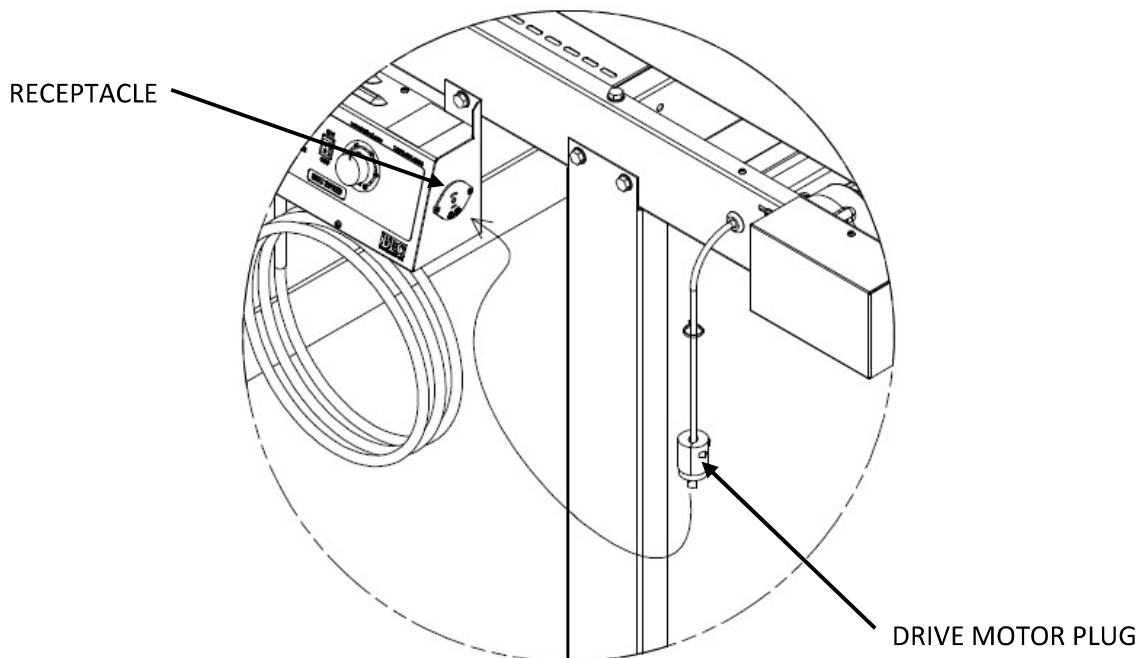

Figure 6
2. Insert **DRIVE MOTOR PLUG** into the **RECEPTACLE** on the **CONTROL PANEL**. Twist **PLUG** to lock in place (see **Figure 6**).